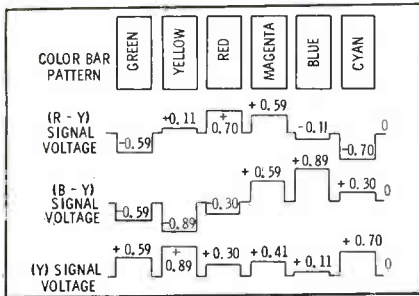

Fig. 5. Signal-voltage levels corresponding to bars in NTSC color pattern.
(5) Check subcarrier-oscillator operation (See Symptom I, step 4). Make certain oscillator output is sufficient.
(6) Scope-check operation of chroma demodulators and amplifiers (see Fig. 5); measure DC voltages; check all transformers and chokes for opens or shorts.